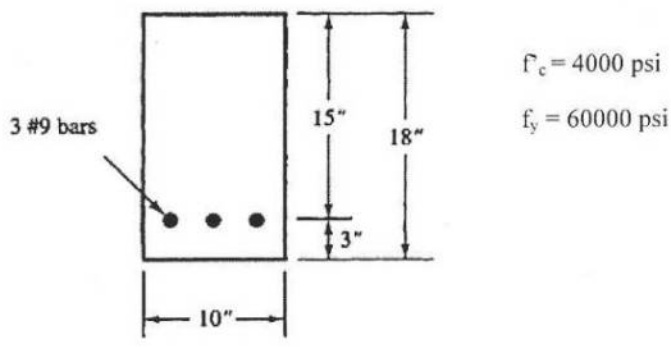

Fig 2
2. a) Calculate the design moment capacity of the following rectangular beam (Fig 2). (6)